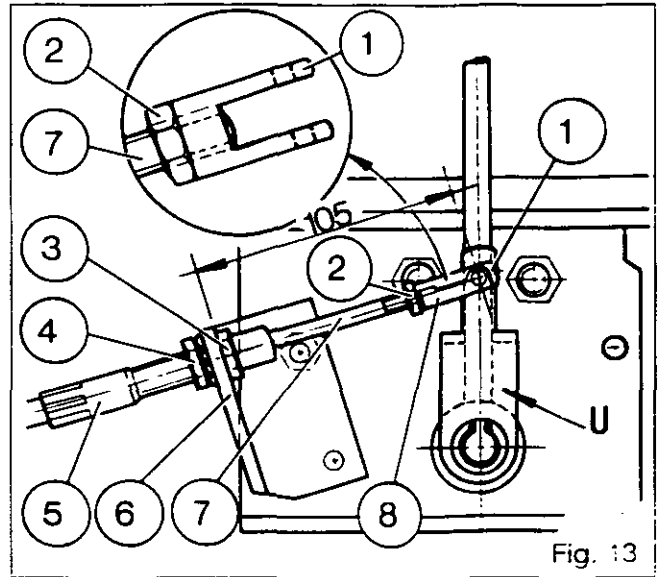

Fig. 13
110. Screw the clevis (1) on to the end of the threaded part of the cable (7) (Fig. 13).
111. Mount the clevis (1) on the selector lever U with the clip (8). Tighten the nut (2) (Fig. 13).
112. With the inner cable (7) extended the outer cable end (5) (Fig. 13) is to be positioned in support (6) so that selector lever U has a neutral dimension of 105 mm between the clevis hole (1) and the support (6).